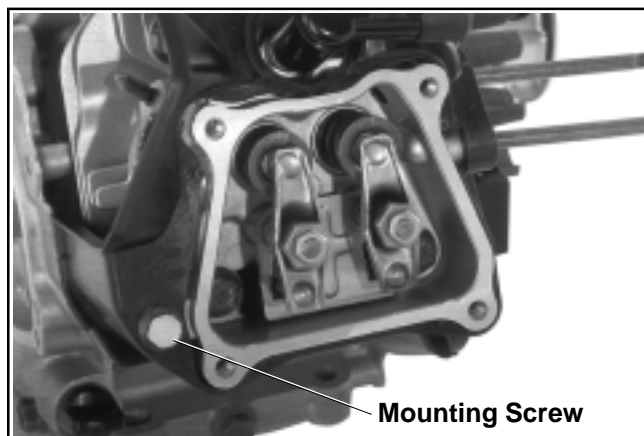

Figure 9-39. CS4, CS6 Mounting Screw Location.
3. Lift off the air shroud from the cylinder head. CS4 and CS6 air shrouds have one mounting screw which must be removed. See Figure 9-39.